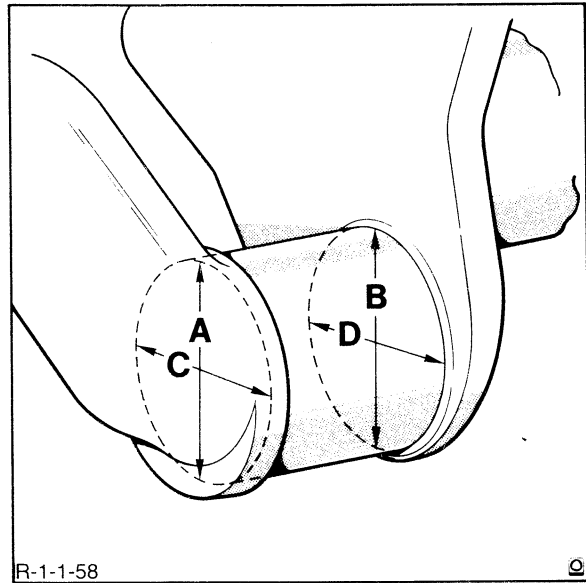

FIGURE 1-60
3. Measure the diameter of each journal in four places to determine out-of-round, taper or wear, Figure 1-60. Measurement "A" compared with "B" indicates vertical taper, while measurement "C" compared with "D" indicates horizontal taper. Measurements "A" and "B" compared with "C" and "D" indicate journal out-of-round.